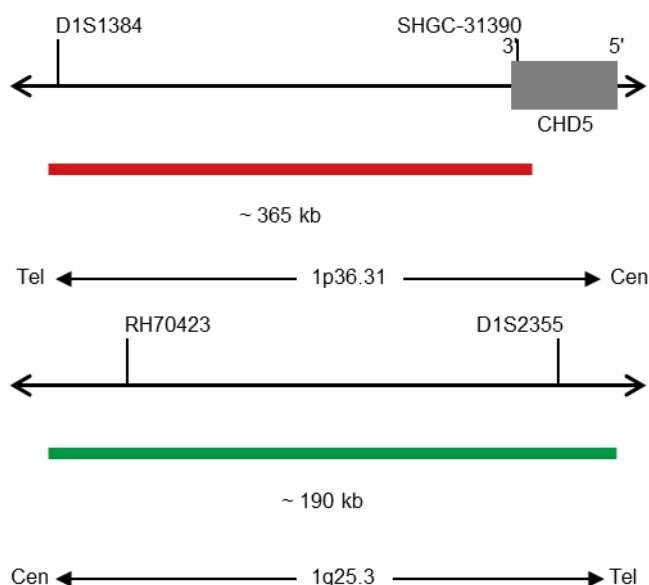

Fig. 1: Top: SPEC 1p36 Probe map; Bottom: SPEC 1q25 Probe map (not to scale)
- Digoxigenin-labeled polynucleotides (~1.7 ng/μl), which target sequences mapping in 1q25.3* (chr1:184,562,510-184,752,938) (see Fig. 1).
- Dinitrophenyl-labeled polynucleotides (~1.7 ng/μl), which target sequences mapping in 1p36.31* (chr1:5,808,946-6,176,336) (see Fig. 1).